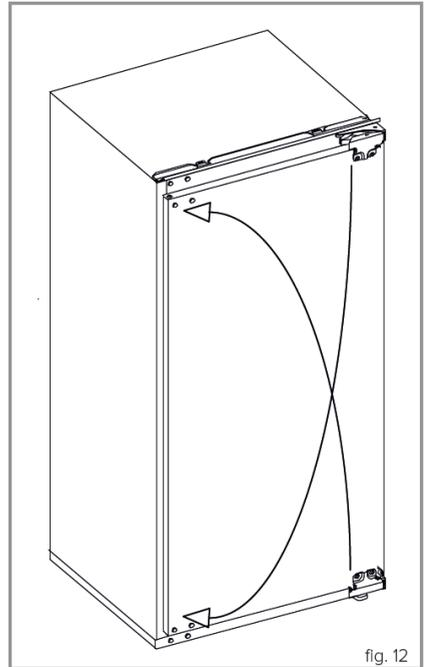

fig. 12
6. Relocate the hinges to their opposing corners as shown in Fig. 12.